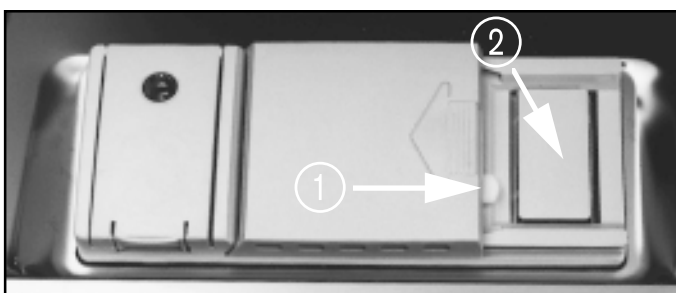
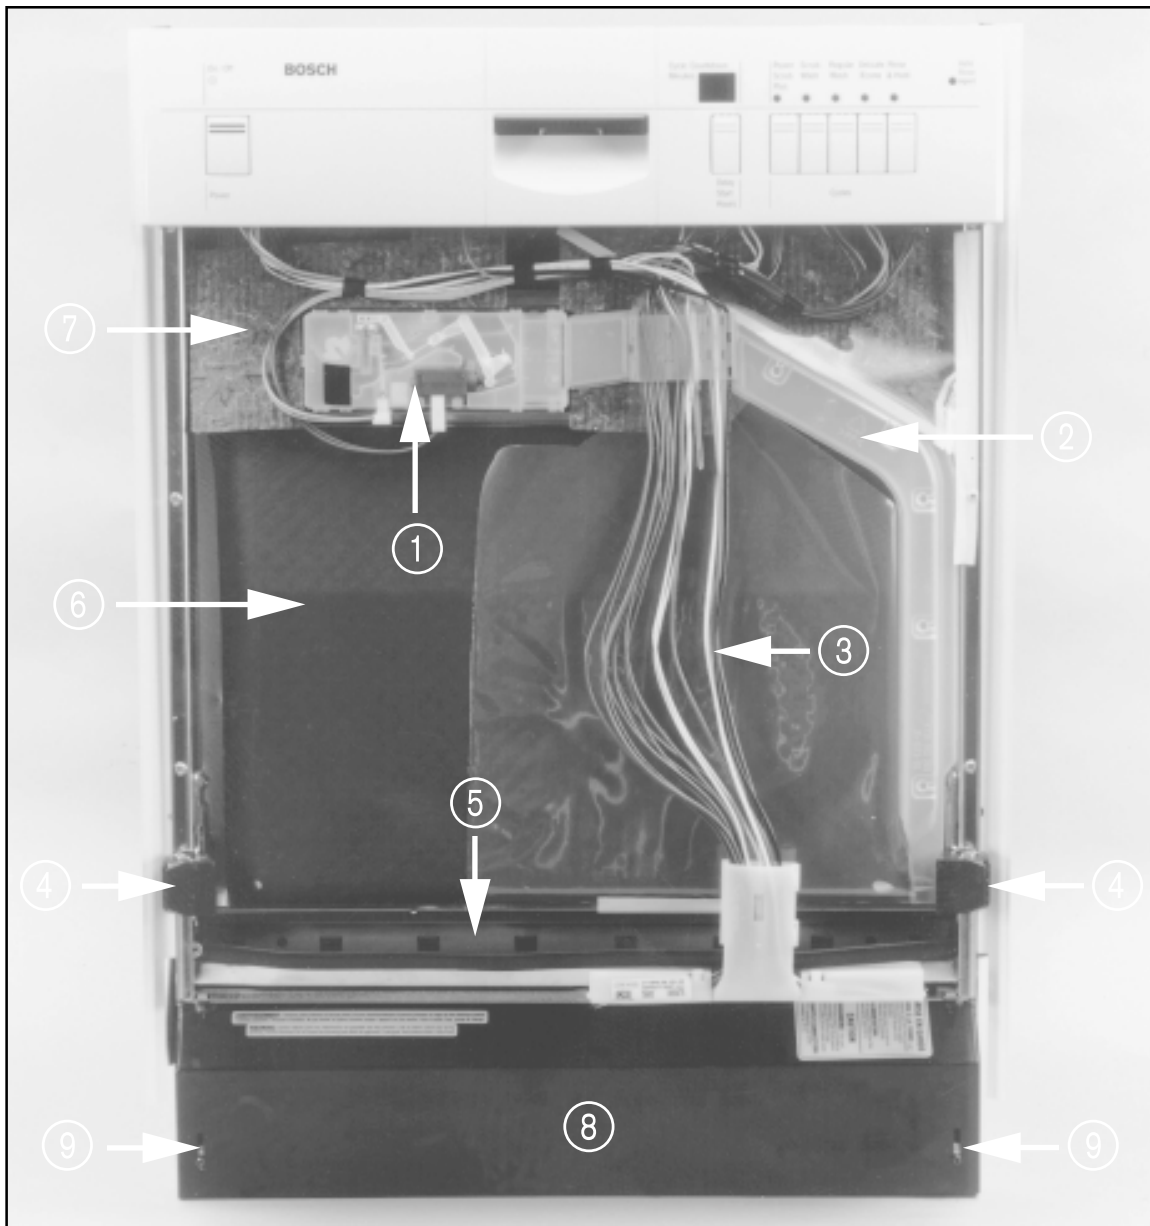

Fig. 6-4
Fig. 7-5
The remaining steam is vented from the interior through the Steam Vent (Fig. 6-4, item 2) where it is then collected by, and drained from the Condensation Tube (Section 4, Fig. 7-5, item 2).